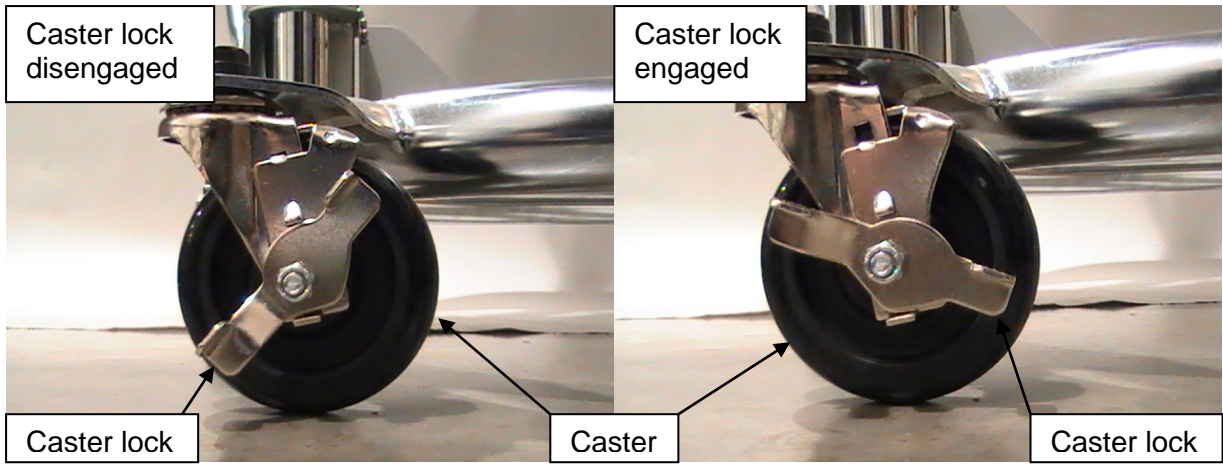

Figure 7
18. A caster lock is provided on the lifter base to prevent movement. To lock caster, step on caster lock lever on side of caster. To unlock, step on higher cam lever (see Figure 7).